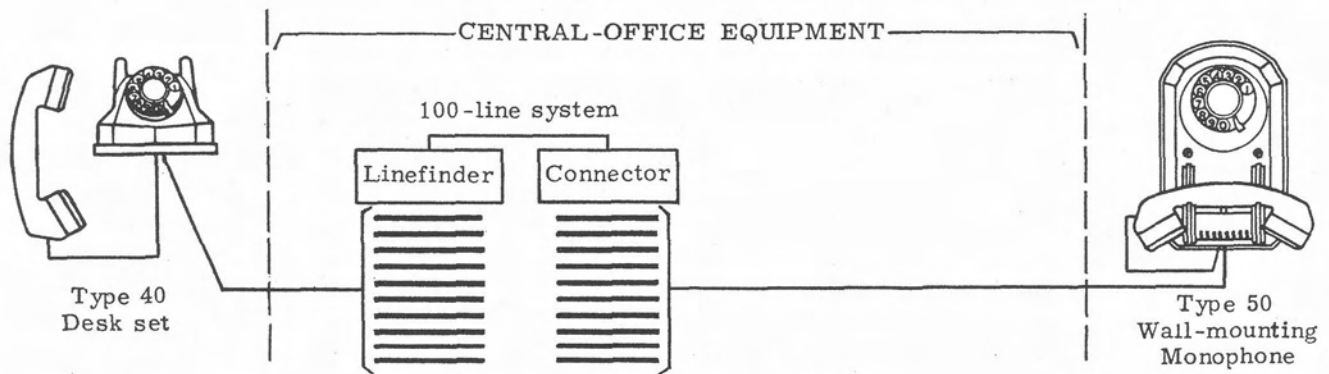
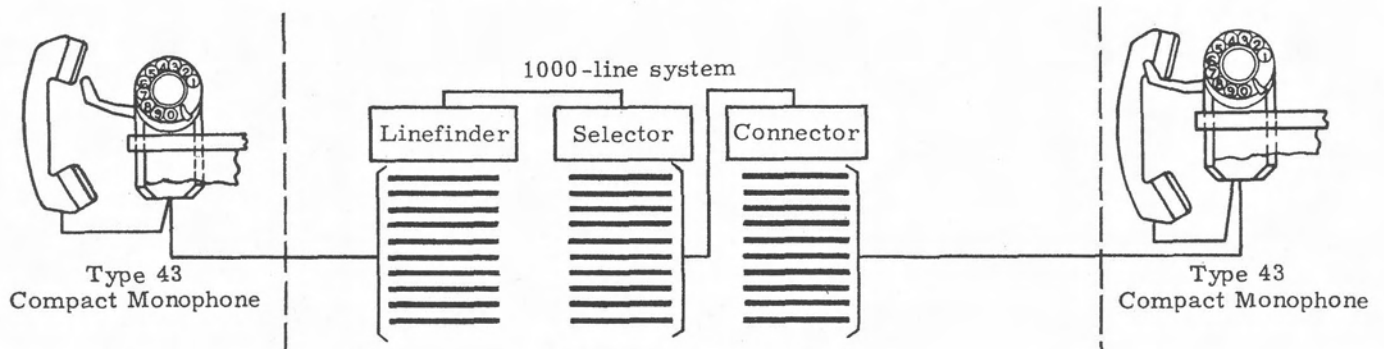

Fig. 62. 100-line system using linefinders.
Fig. 63. 1,000-line system.
The connector, supplying busy tone, ringing current, transmitter current, disconnect control, etc., is virtually a self-sufficient switch. If (fig. 62) the exchange does not require selectors, a complete central office can be built of just linefinders and connectors.**
45. LINEFINDER HUNDRED-LINE SYSTEM (FIG. 62)
In the system discussed in §44 the lineswitch found an idle connector. In the linefinder system (Fig. 62), when the handset is lifted, line relays start an idle linefinder, and it finds the calling line and extends it through to the connector. Dial tone tells the caller to dial. The connector functions as described in §44.
46. THOUSAND-LINE SYSTEM (FIG. 63)
The thousand-line system shown in Fig. 63 is similar to the one-hundred-line system in Fig. 62, except for the addition of selector switches between the linefinders and the connectors. The selector selects the particular hundred-group being called. For example, if 345 is the number to be called, the selector extends the calling line to an idle connector in the three-hundred group. The call then proceeds as in a one-hundred-line system.